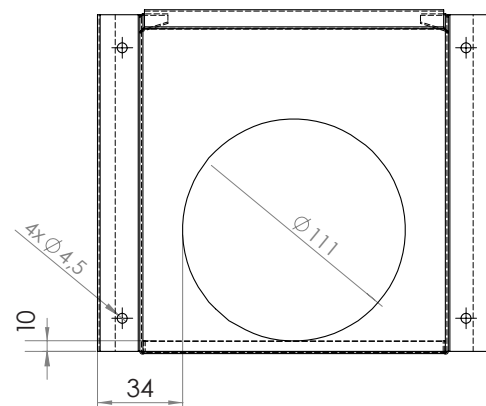

fig. 5
5. Fit the ventilator cowl making sure it is correctly installed. The inlet air pipe must extend about 10 mm above the lower edge and be centred - i.e. the edge of the cowl must be about 34 mm from the external surface of the pipe, see fig. 5. Tip: Use a marker pen to indicate where the screws must be fastened.